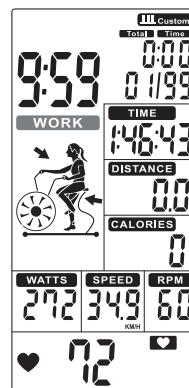

FIGURE 36
- The time is reduced from the preset total time and WORK blinks once per second. Then TIME (DISPLAY 3), DISTANCE (DISPLAY 4), CALORIES (DISPLAY 5), WATTS (DISPLAY 6), SPEED (DISPLAY 2) And RPM (DISPLAY 1) start counting, the count displays '01/XX' (Figure 36).